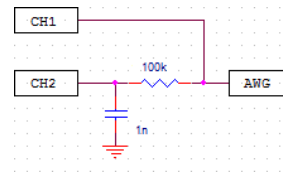

Figure 59: RC Circuit
- 1) Build the circuit shown on figure 59.